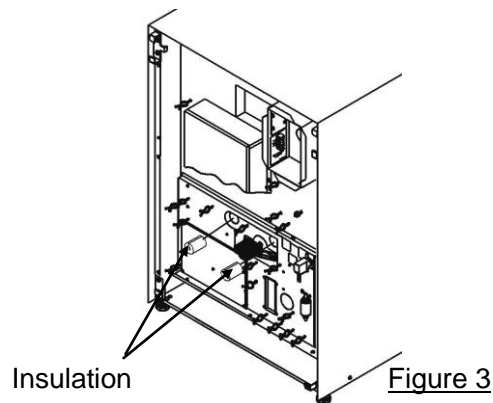

Figure 3
4. Take out insulation (2pcs) in figure 3. It is easier to take out by pushing from inside chamber. Removed insulation will be reused, so please keep them.